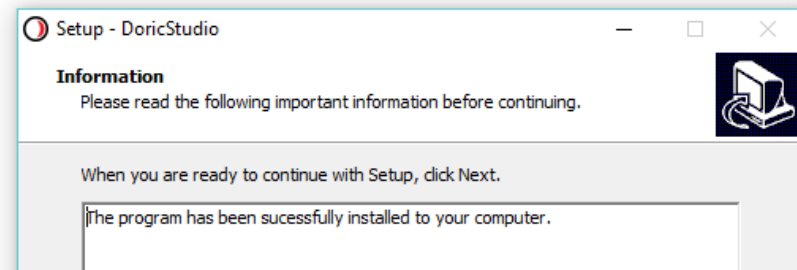

Figure 2.3: *Successful Installation of the Doric Neuroscience Studio*
8. When ready, click **Install** to begin the process. This should take a few moments. When the installation is done, the message in figure 2.3 will show up.